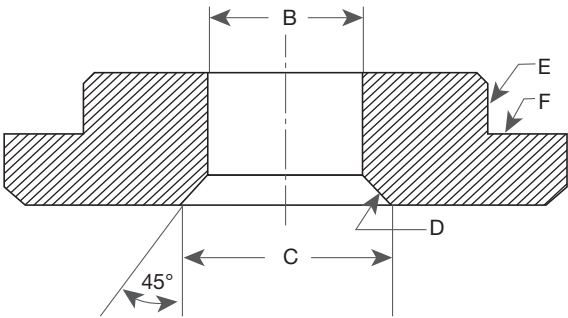

Figure 45: Lower Spring Washer
1. Remove the eductor tube (40) from the base (1) by selecting a drill bit approximately .016" (0.40 mm) smaller in diameter than the outside diameter of the eductor tube. Drill into the bore of the eductor tube where the tubing is attached to the base. This will reduce the tube wall thickness to the extent that it can easily be collapsed for removal. The bellows flange will cover the hole in the guide surface which will remain after the tube is removed.
2. Machine the existing lower spring washer (17) (see Figure 45 and Table 22).